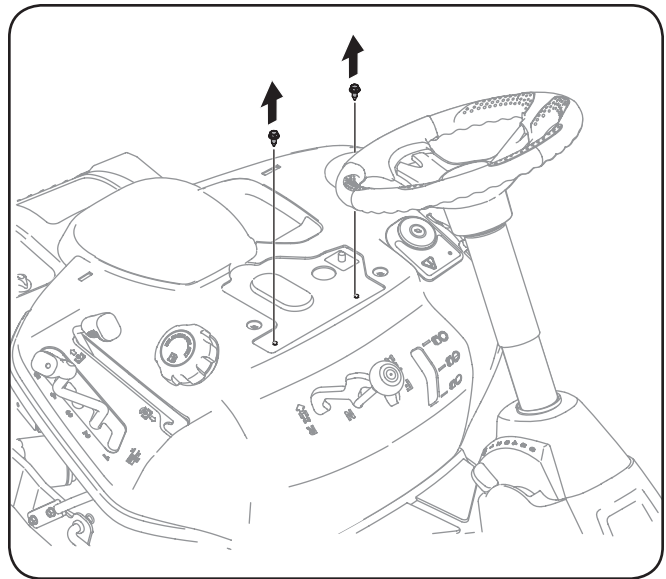

Figure 3-5
2. Remove the two self-tapping bolts factory installed on the tractor. See Figure 3-5.
7. To adjust the position of the seat, loosen the adjustment knob on the bottom of the seat. Slide the seat forward or backward as desired. Retighten the adjustment knob. Refer to Fig. 3-5.